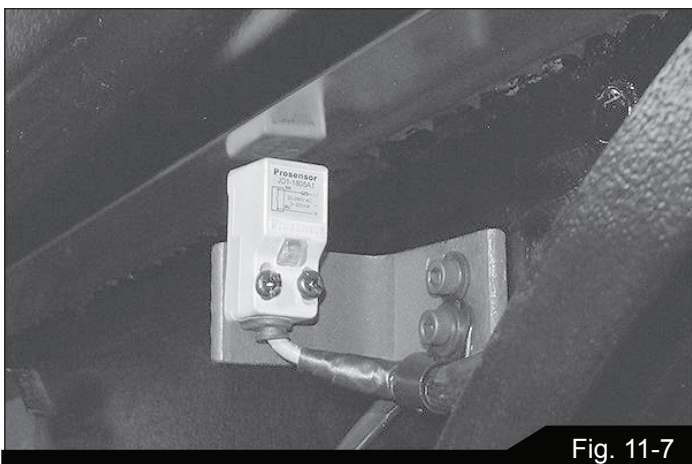

Fig. 11-7
Vise Positioning (I) – Turn switch to position vise table forward or back. **CAUTION:** Raise saw frame higher than vise before moving vise table, to avoid machine damage. Also, see note in Fig. 11.7 concerning removable table.